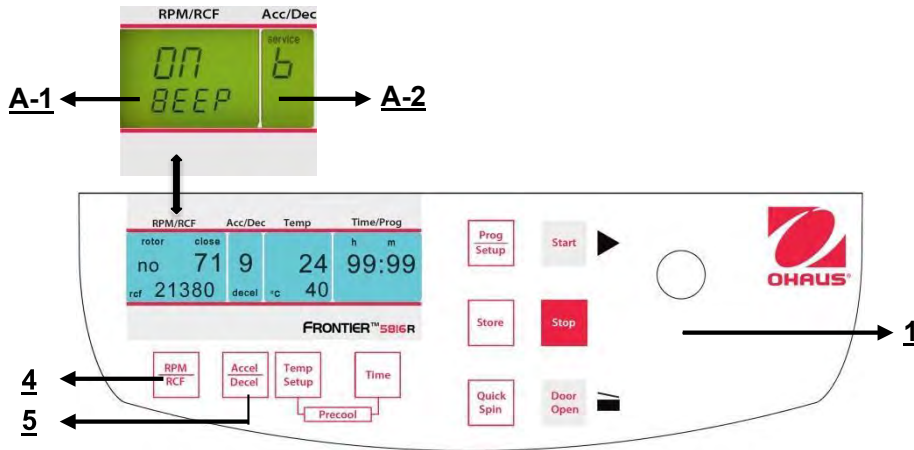

Figure. 35
Proceed as described under point 4.1.1 to enter this program mode and then press the key "**Accel/Decel**" (5). In the display "**Acc/Dec**" (A-2) the word "**Service**" flashes. Now select the letter "**B**" with the adjusting knob (1). As a result, in the display "**RPM | RCF**" (A-1), the word "**ON/BEEP**" appears. After pressing the key "**RPM | RCF**" (4), you can turn the keyboard sound (On) or (Off) with the adjusting knob (1). (See figure 35).